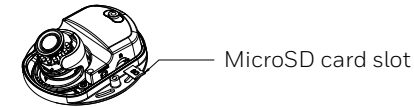

Figure 2-1
2. If local storage is needed, insert a microSD card into the microSD card slot as shown in Figure 2-1.